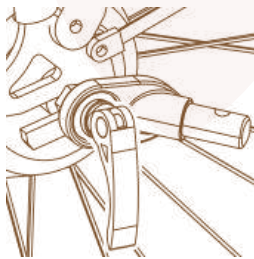

Figure 11
1. Quick release Axle: Remove the quick release from the left side of the bike's rear axle. Install the hitch between the quick release and frame. Tighten the quick release following the bike manufacturer's manual. Hitch can remain on the bike when the trailer is removed (Figure 11).